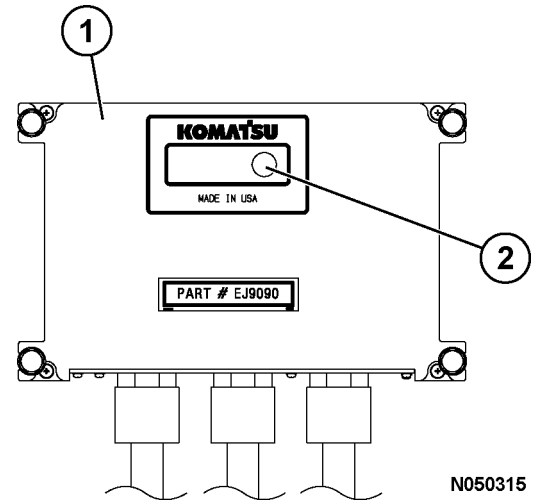

FIGURE 32-12. INTERFACE MODULE
Interface module (1, Figure 32-12) receives data from the sensors installed on the truck and sends this information to the VHMS controller. There is a small green LED light (2) on the face of the controller. When the key switch is ON, the light should be blinking. If the light is continuously illuminated, there is a problem in the controller.